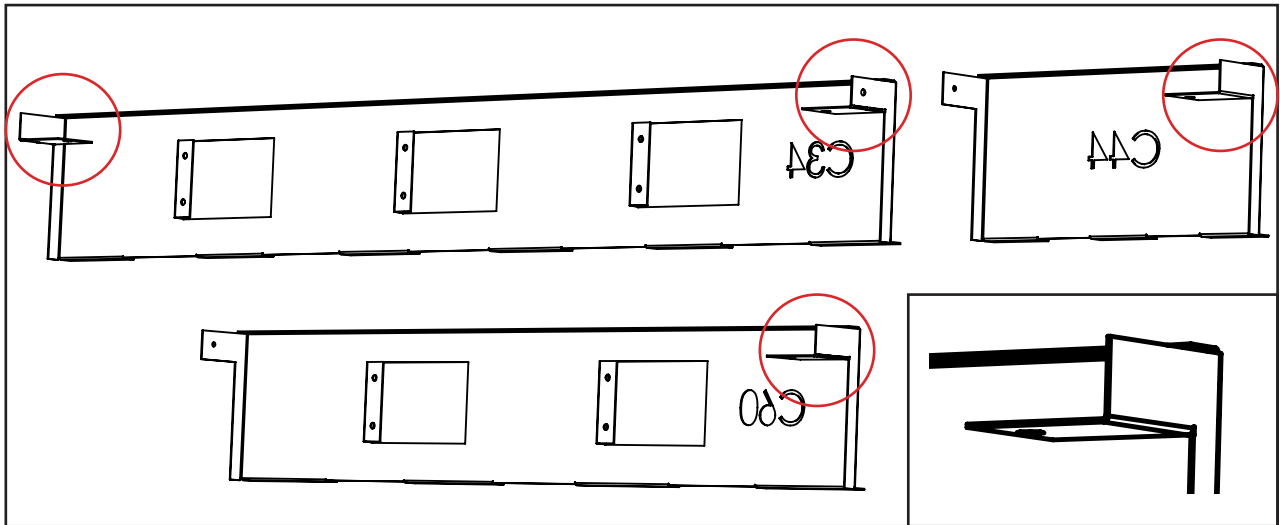

Figure 15. Rear Panel hand bent flanges
Step 2: All the Units use the C34 panel as a base. If installing a C44, use both the C34 and C44 panels. If installing a C60, use both the C34 and C60 panels. Once you have your required panels locate the flanges in the figure 15 below. Bend these flanges inwards 90deg to match the figure 15 below.